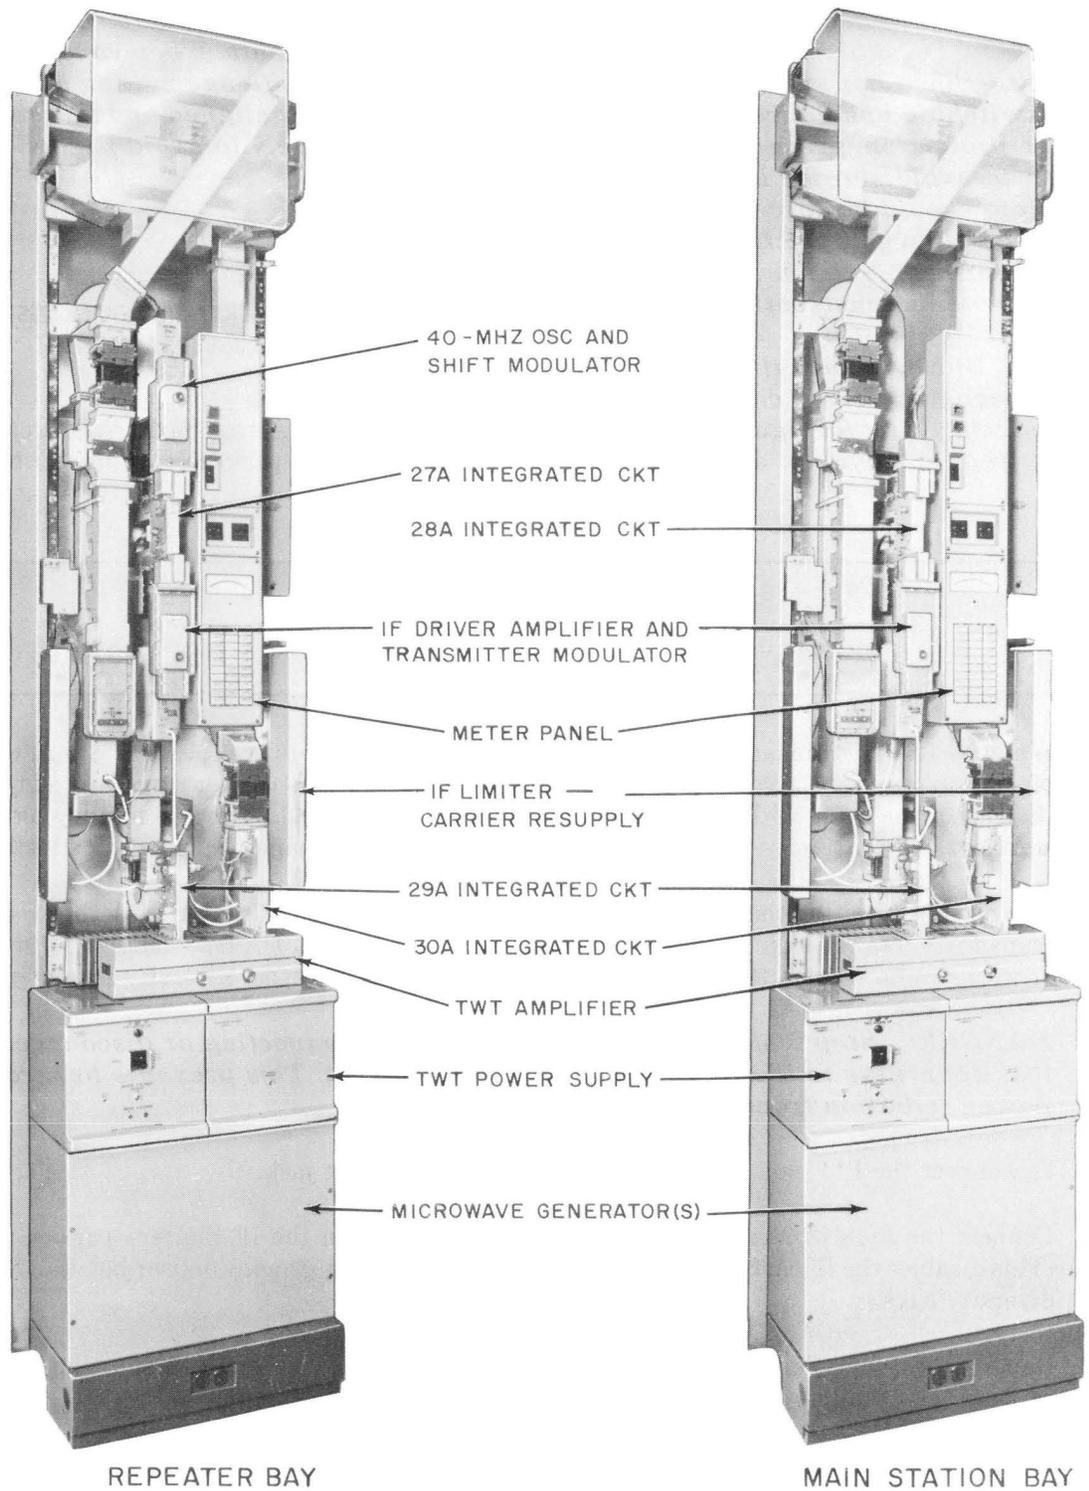

Fig. 1—Repeater and Main Station Bay—Transmitter Parts Location
1.04 For the location of components in the transmitter section, refer to Fig. 1.